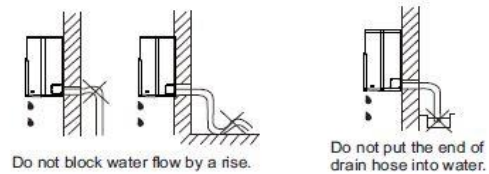

Fig.7
6. Run the drain hose sloping downward. Do not install the drain hose as illustrated in Fig.7. When connecting extension drain hose, insulate the connecting part of extension drain hose with a shield pipe, do not let the drain hose slack.